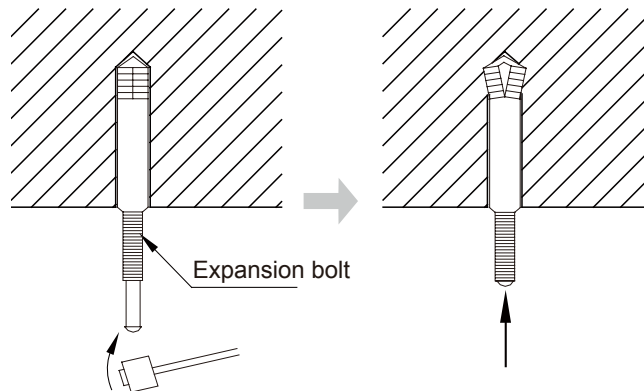

Fig 4.1.6
(2) Insert the expansion bolt M10 into the hole and then drive the iron nail into the bolt, as shown in Fig 4.1.6.